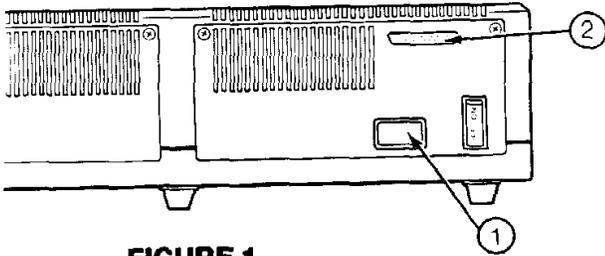

FIGURE 1
1. Make sure all power to the ProFile is off. Turn the ProFile around so that the back of the unit faces you. Remove the power plug and interface board cable from the connections in the back of the drive. (Figure 1, Items 1 and 2).